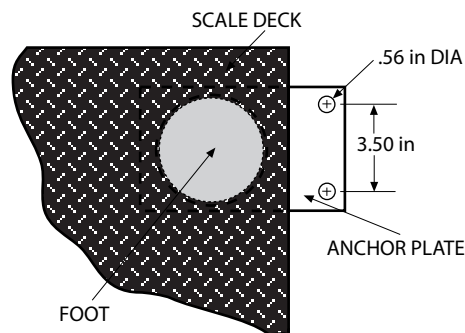

Figure 2-4. Optional Anchor Plate Installation
3. Lower the scale back to the floor, and position the plates as shown in Figure 2-4 so that the bolt-down holes are accessible from above.